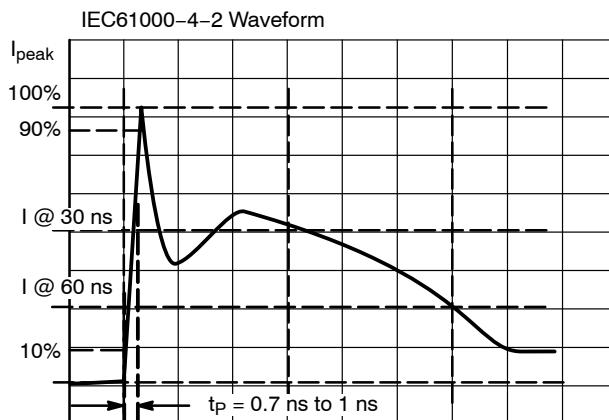

Figure 3. IEC61000-4-2 Spec
1. For test procedure see Figures 3 and 4 and application note AND8307/D.